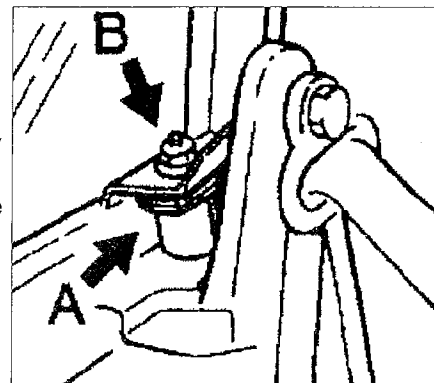

Figure 7
- The distance spacer (A in Figure 7) may be loose or incorrectly positioned.
- Loosen the M6 nut (B in Figure 7) and check the position of the distance spacer. Afterward, re-torque the M6 nut to 9.7 Nm (7 Ftlbs).